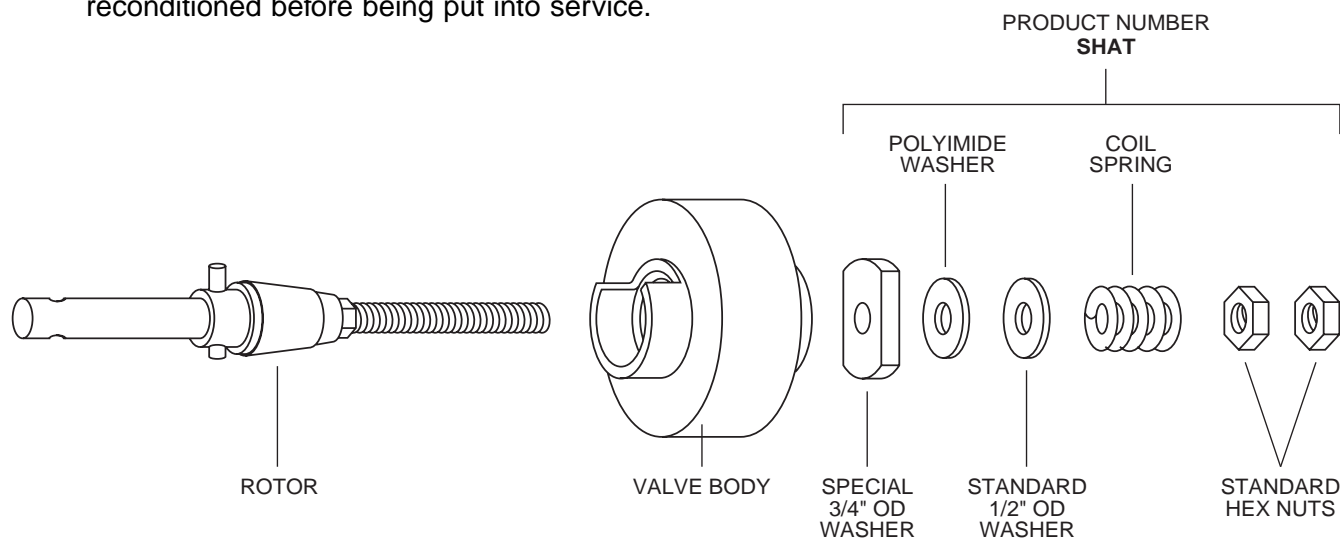

Figure 1: Exploded view of a T series valve
1. Using a wrench or nut-driver, loosen and remove the two standard hex nuts from the threaded rotor shaft. (**Figure 1**)